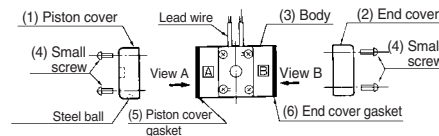
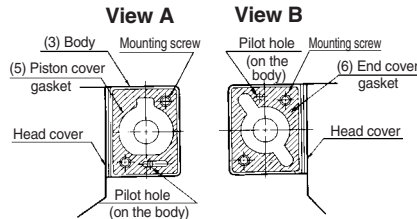

Fig. 1
Fig. 2
- Loosen small screw (4) and remove piston cover (1) and end cover (2) from body (3). See Fig. 1. Leave piston cover gasket (5) and end cover gasket (6) attached to body (3). The installed position of the gasket at this time is shown in Fig. 2.